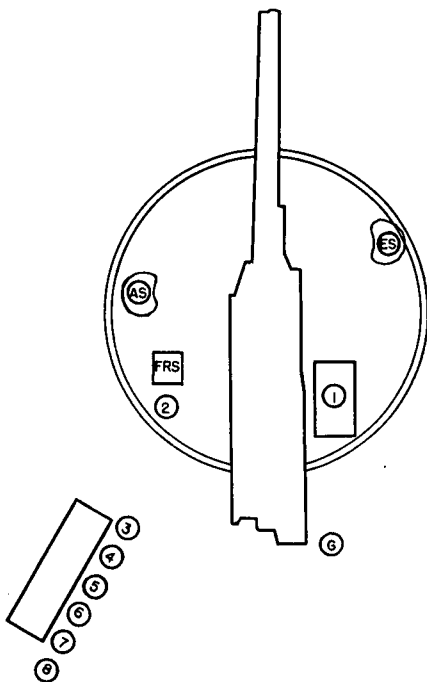

FIGURE 2.—Positions at command DETAILS, POSTS.
b. When the section arrives at the gun emplacement, he commands: 1. DETAILS, 2. POSTS, and supervises the procurement of equipment. After all details have reached their posts (see fig. 2) he commands: EXAMINE GUN. He then personally makes an inspection of the gun, mount, and other matériel, assuring himself that the power is turned on in the data transmission system, that all mechanical pointers are properly adjusted (see FM 4-110), that all electrical pointers are synchronized with their respective transmitters in the director (see FM 4-110), that the pressure in the rammer cylinder is correct, that the oil in the packing seal and in the front and rear rammer buffer cylinders has been replenished, that firing mechanisms and safety devices are in order, that the recoil cylinder and the front and rear buffer cylinders are properly filled, that all moving parts are lubricated, that the breech operating cam has been set for automatic (or hand) operation, that the rammer release tripping cam has been set for proper operation of the rammer, and that the operation of the rammer has been tested by ramming a drill cartridge with the gun at elevations of approximately 800 and 1,100 mils. He then commands: REPORT, receives the reports of the members of the gun section as called for by the drill table (ch. 10), and reports to the battery executive, "Sir, No. \_\_\_\_\_ in order," or reports any defects he is unable to remedy without delay.